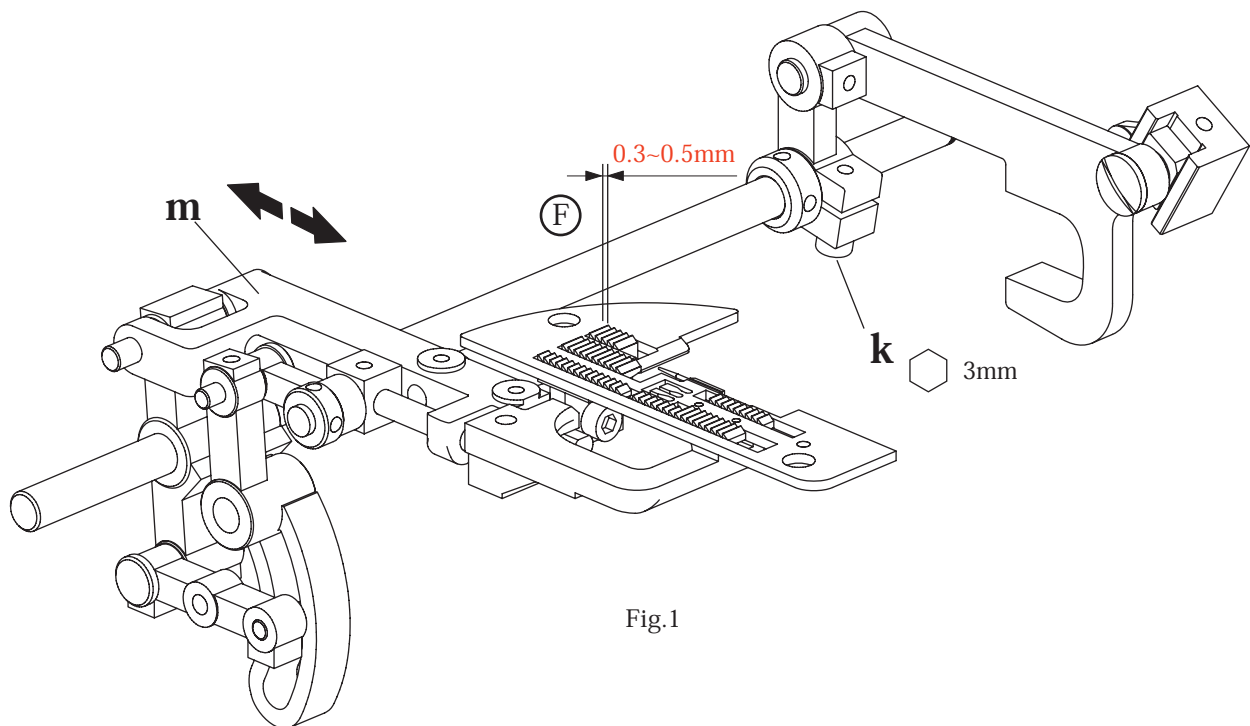

Fig.1
1. To adjust a clearance between feed dog and needle plate, set SL dial at "5" and DF dial at "1". Turn the handwheel towards you until feed dog moves to far rear position. Loosen screw "k" and move feed bar "m" back and forth to obtain a clearance "F" of 0.3 to 0.5 mm. (Fig. 1) Fasten screw "k".